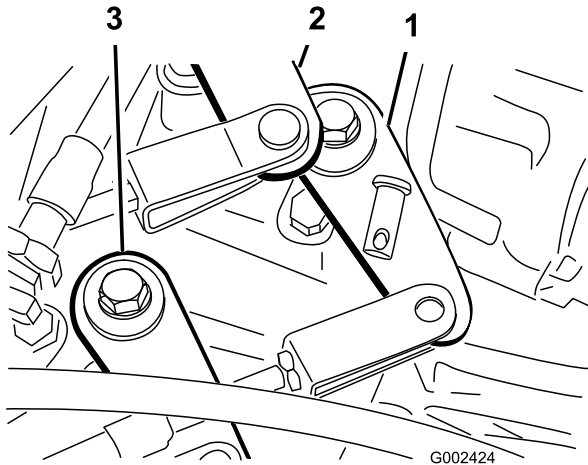

Figure 42
2. Remove clevis pins securing shift cables to transaxle shift arms (Figure 42).